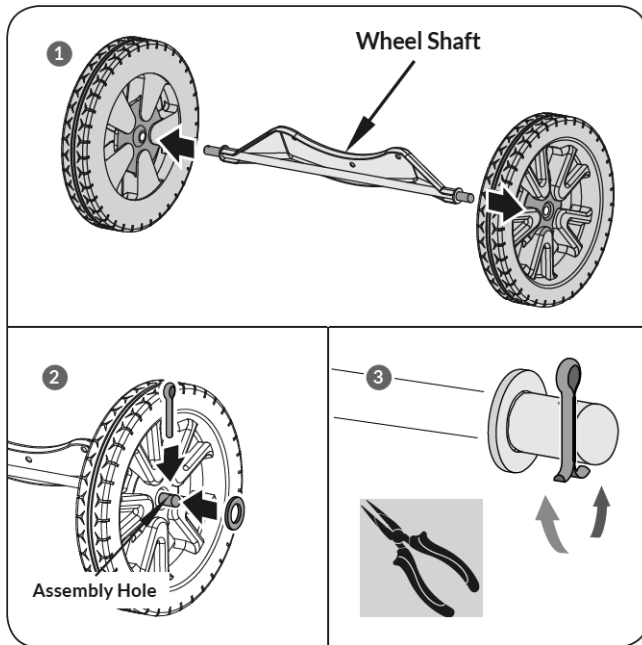

Figure 1
1. Slide a wheel assembly on to each end of the stub axle as seen in **Figure 1 Illustration 1**. Place the flat washer onto exposed axle. (See **Figure 1 Illustration 2**) Take the cotter pin from Hardware Kit#1 and insert into and through the axle hole. Then, bend the ends of the cotter pin. (See **Figure 1 Illustration 3**)